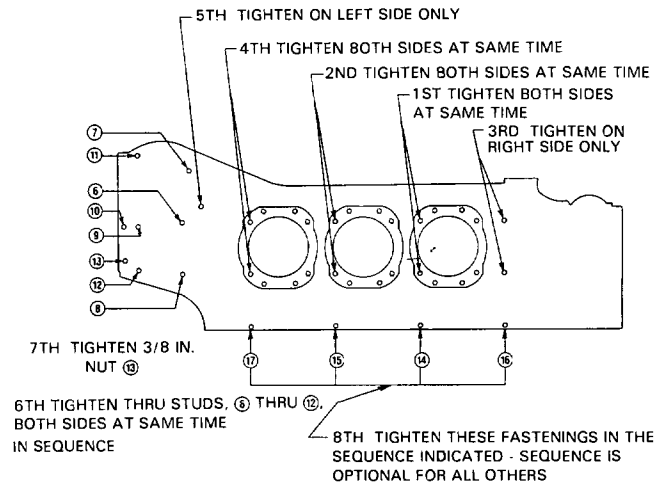

Figure 6. Left Side of Crankcase
f. Integral Accessory Drive Engines (TIGO-541), Wide Cylinder Flange (See Figure 6).